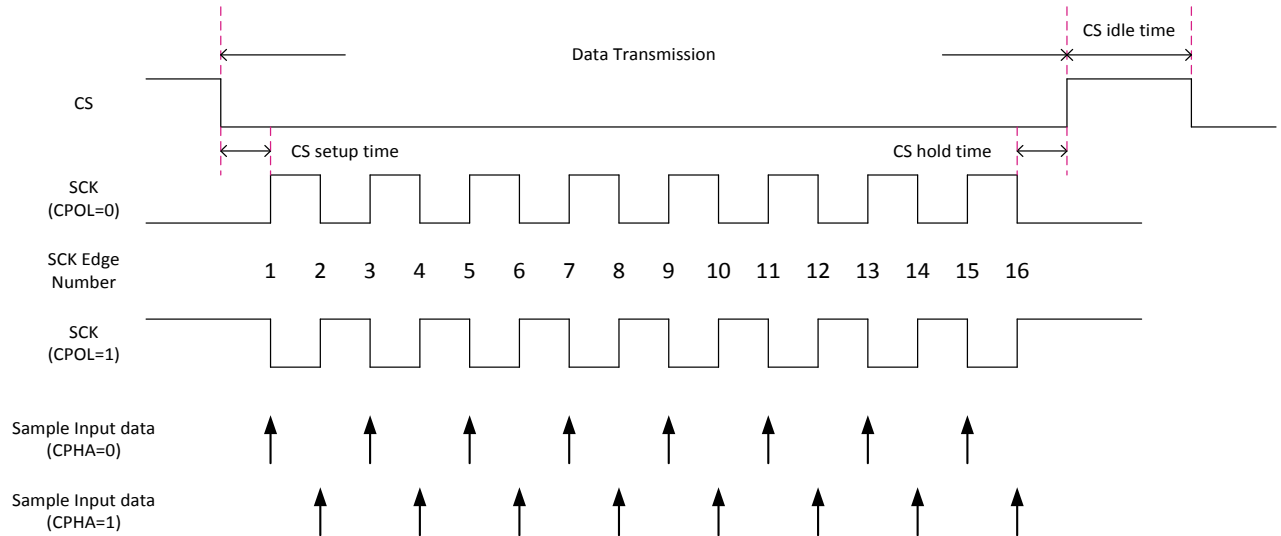

Figure 2.5-2. SPI transmission formats
- The SCK frequency can be configured as 96/N MHz when core power is 1.1V or 1.3V, and 26/N MHz when core power is 0.9V, where N ranges from 2 to 217, with CPOL and CPHA features for different applications. CPOL defines the SCK polarity. CPHA defines the legal timing to sample data. The CS signal setup time, hold time and idle time can be configured, too. The detailed timing diagram of the SCK and CS is shown in Figure 2.5-2.